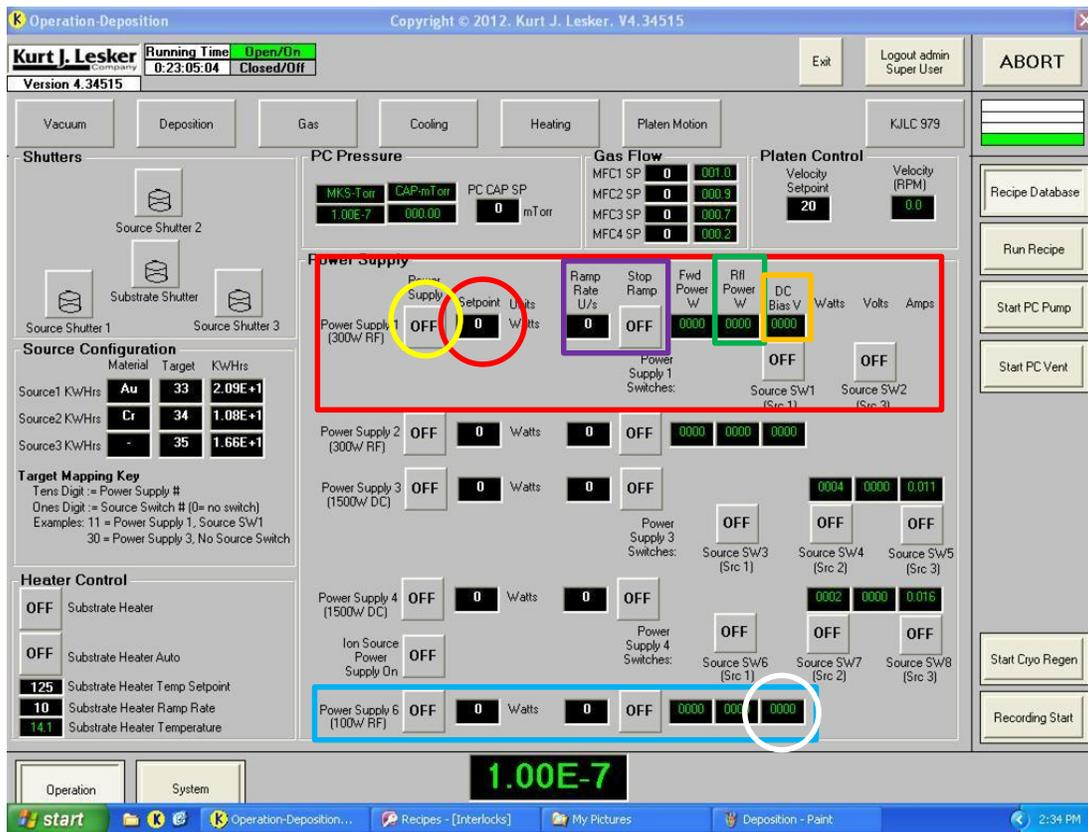

Figure 4. RF Deposition on the PVD 75.
1. In the row corresponding to **Power Supply 1**, Figure 4, press the **OFF** button above **Source SW1 (Src 1)** to turn it on.
In the row corresponding to **Power Supply 1**, Figure 4, press the **OFF** button above **Source SW2 (Src 3)** to turn it on.
2. Turn on/strike the plasma for regular sputtering processes prior to turning on Power Supply 6 (light blue rectangle), Figure 4. Set the desired power in the box next to **Watts** and press the **OFF** button to turn on **Power Supply 6**. You should see a **DC Bias V** value appear in the white circle. Open the substrate shutter to begin sputtering. After a minute or so, open the viewing shutter and the plasma should look like a spreading mist.
1. After your depositions is complete turn off all **Power Supply #**, Figure 4.